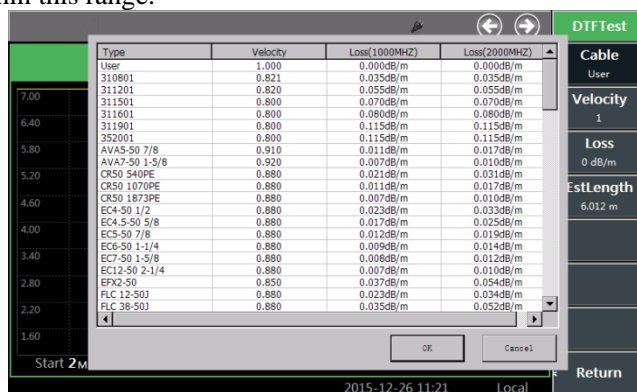

Fig. 4-21 Cable Type Calling Interface
- ✧ Setting of cable type: click [DTF Test]→[Cable Type] in the right menu and select the cable type. 4992A is provided with a series of commonly used cable models to be called by the user, as shown in Fig. 4-21. Select the corresponding cable mode with the touch screen, knob, [↑] or [↓], and click the [Select] soft key or press the [OK] hard key. Thus the cable model is called. In this case, the speed factor, cable loss and other parameters can be matched automatically according to the selected cable model.